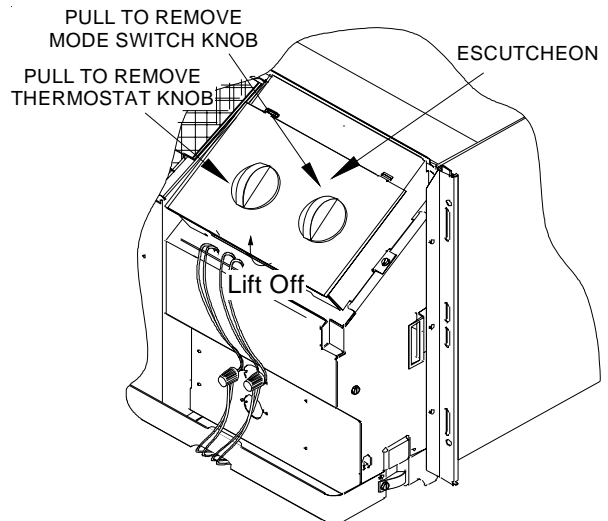

Figure 4
16. Connect the kit wiring to the field wiring using the wire nuts provided. Route the kit wiring as shown in Figure 4. Do not run wires through basepan or wall sleeve.